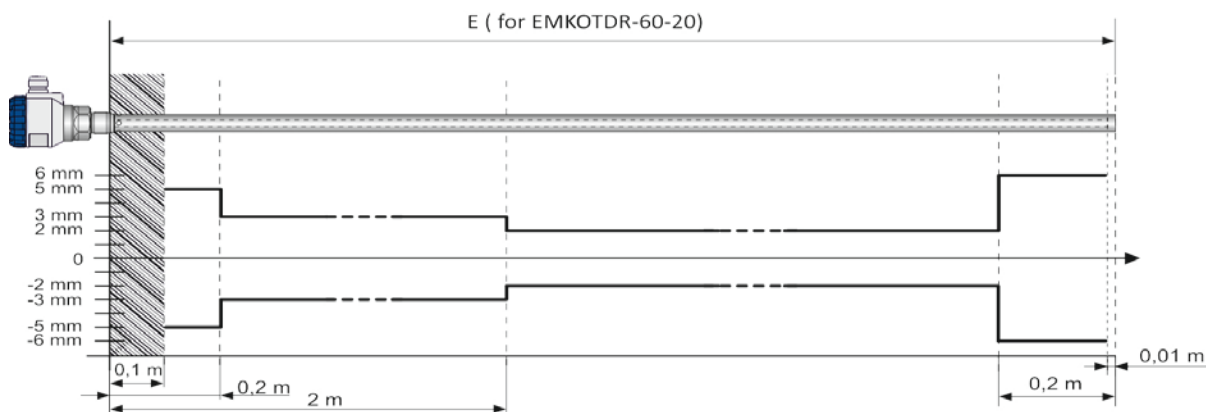

Fig. 28: The graph of the measurement errors along the rod electrode with reference tube
- 1) Error is larger at the beginning and end of the rod or rope electrode. More detailed informations can be found in Fig. 28 and 29.
- 6) hatched space applies for set measurement sensitivities: low (1), moderate (3) or user (1-4). When the sensitivity set to high (5), or custom (5-8), the dead zone at the beginning and at the end of the electrode extends, see "Table of sensitivity of the measurement" on page 28.